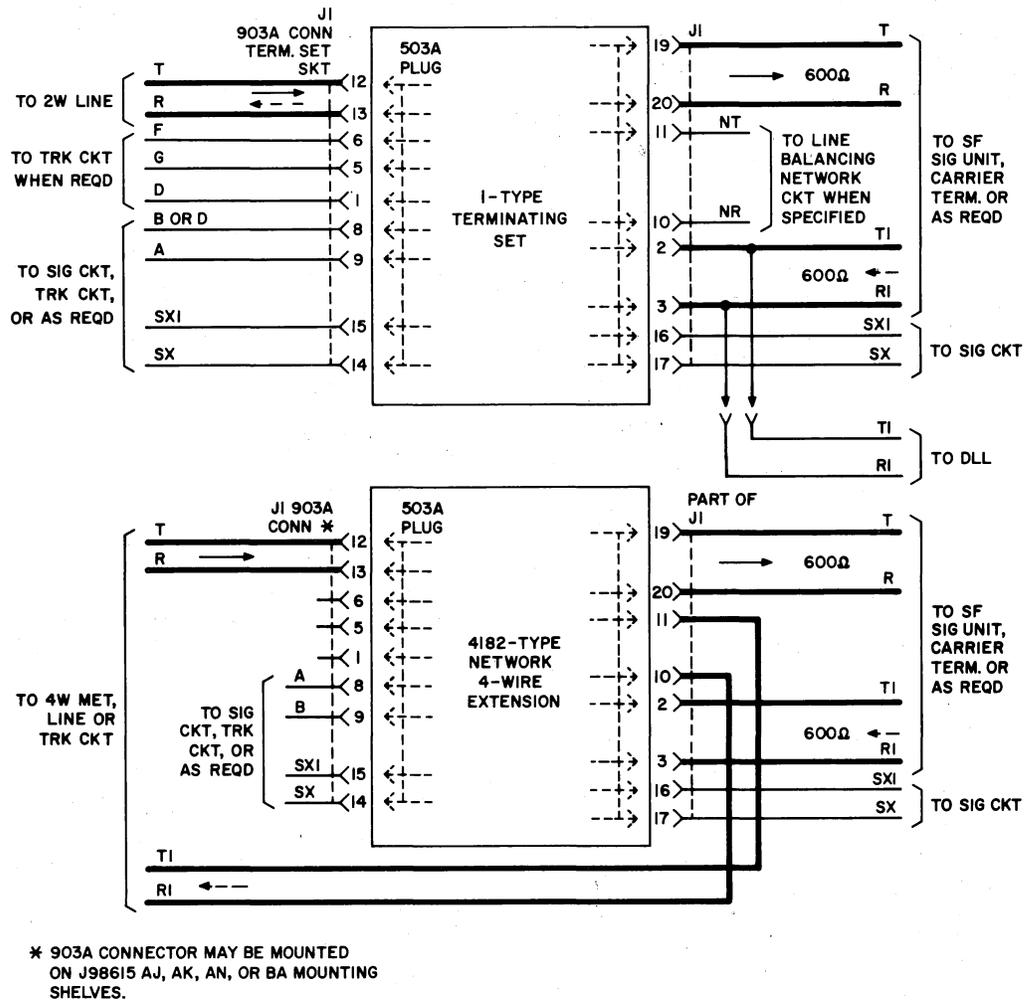

Fig. 1—Terminal Correspondence, 1-Type Term. Set and 4182-Type Network
**14.01** The 4182-type networks are a series of plug-in 4-wire extension networks which are physically interchangeable with 1-type terminating sets (Fig. 1). The 4182-type networks are designed to be plugged directly into the mating connector socket of the equipment mounting shelf. Regardless of the choice of plug-in units (1-type terminating sets, 4182-type networks, or 437A plug), the same physical equipment mountings will be suitable for either 2-wire or 4-wire extensions.